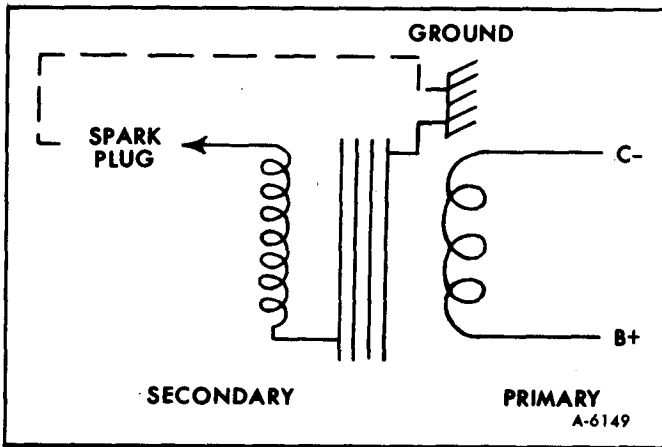

Figure 29—Ignition Coil Schematic
#### REMOVAL (REFER TO FIGURES 29 AND 30)
**NOTE:** The yellow and red wires are both primary. The two black wires are ground for secondary. The primary and secondary coil windings are isolated, as shown in figure 29.